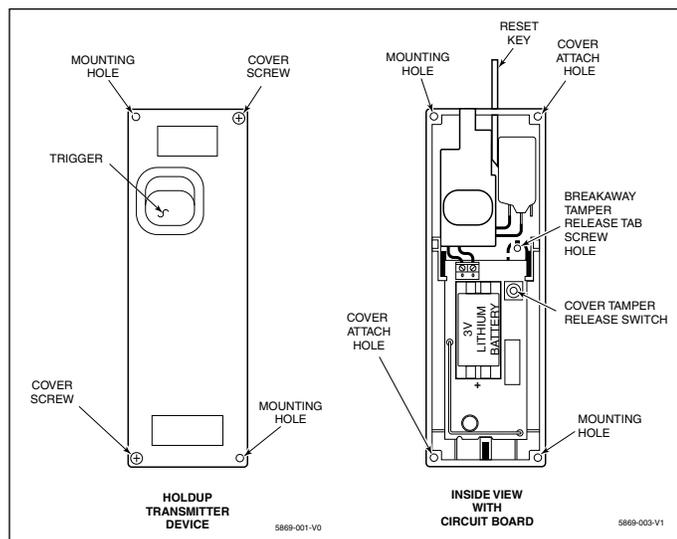

FIGURE 1
1. Remove the two screws (Figure 1) securing the cover to the 5869 case.
3. Re-install screws to secure cover and/or assembly. Refer to Figure 1.